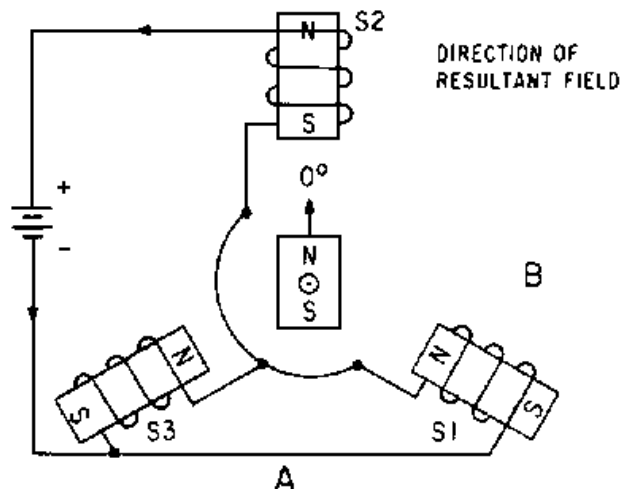

Figure 1-9.—Operation of three electromagnets spaced 120° apart.
Keeping in mind these basic points, consider how the bar magnet reacts to three electromagnets spaced 120° apart as illustrated in figure 1-9. In this figure, stator coils S1 and S3, connected in parallel, together have the same field strength as stator coil S2. The magnetic field is determined by current flow through the coils. The strongest magnetic field is set up by stator coil S2, since it has twice the current and field strength as either S1 or S3 alone. A resultant magnetic field is developed by the combined effects of the three stator fields. Coil S2 has the strongest field, and thus, the greatest effect on the resultant field, causing the field to align in the direction shown by the vector in view B of the figure. The iron-bar rotor aligns itself within the resultant field at the point of greatest flux density. By convention, this position is known as the zero-degree position. The rotor can be turned from this position to any number of positions by applying the proper combination of voltages to the three coils, as illustrated in figure 1-10, view (A), view (B), view (C), view (D), view (E), view (F).